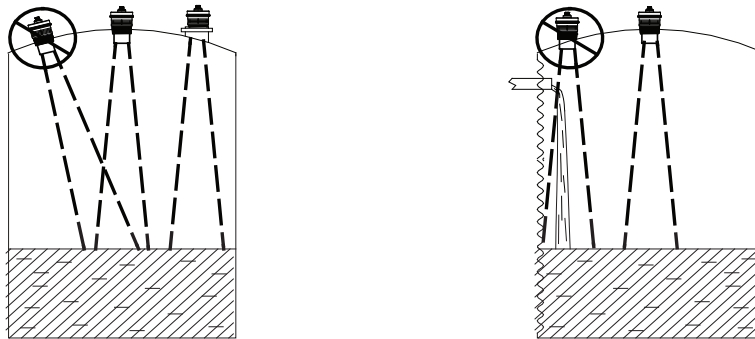

Figure 2.1
- Mount your LPU sensor so that it has a clear, perpendicular sound path to the surface being monitored. Your sensor should be mounted away from tank or vessel walls and inlets. See Figure 2.1.